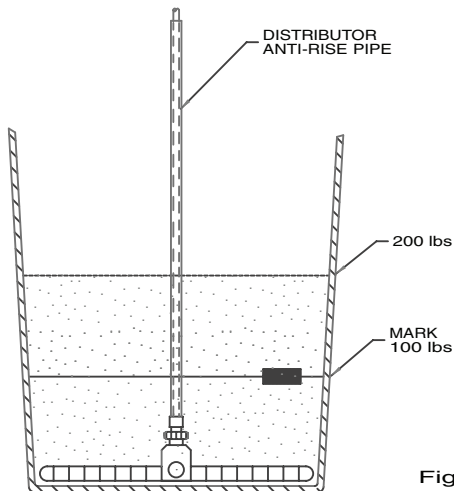

Fig.2
3. Cut clear, flexible vinyl tubing to 34" length and add a tubing insert (Key No. 32 on Parts List) to each end. Slip free end of tubing into connector at outlet of syphon breaker and tighten compression nut until tubing is held securely. Slide PVC anti-rise pipe over tubing. Connect other end of tubing to distributor tube assembly in same manner. Distributor tube assembly should rest just at bottom of tank. (See Figure 2).